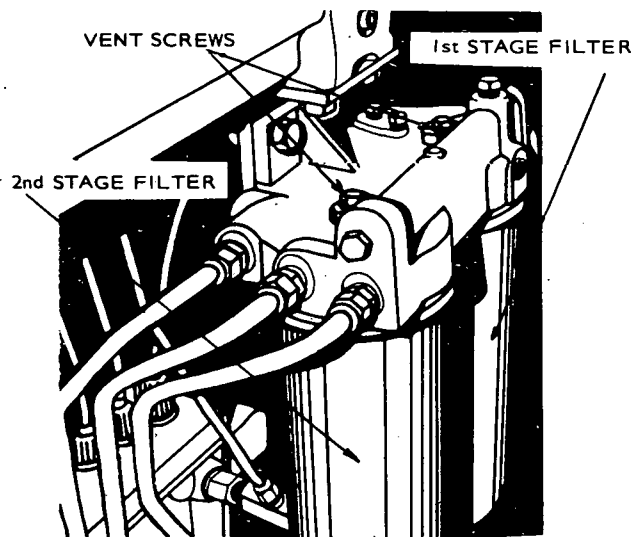

FIGURE 25. FUEL FILTERS
1. Loosen 2nd stage filter vent screw (Figure 25).